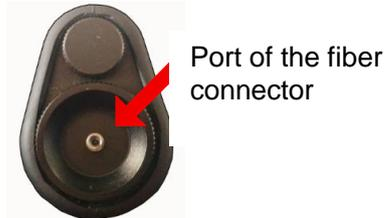

Figure F-5 Port position of the fiber connector
Step 1 Connect the fiber connector to the port on the bottom of the inspector, as shown in Figure F-5. This port supports the FC-APC and FC-UPC connectors.